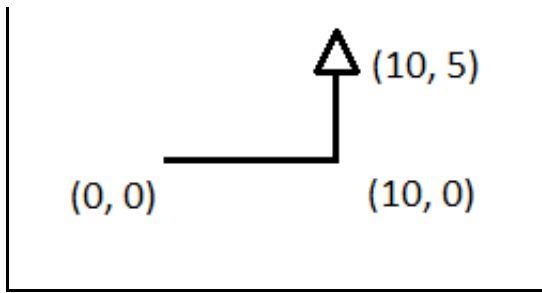

Figure 1:
4. *Move forward 5*. This moves the laser to location  $(10, 5)$ . (See Figure 1)